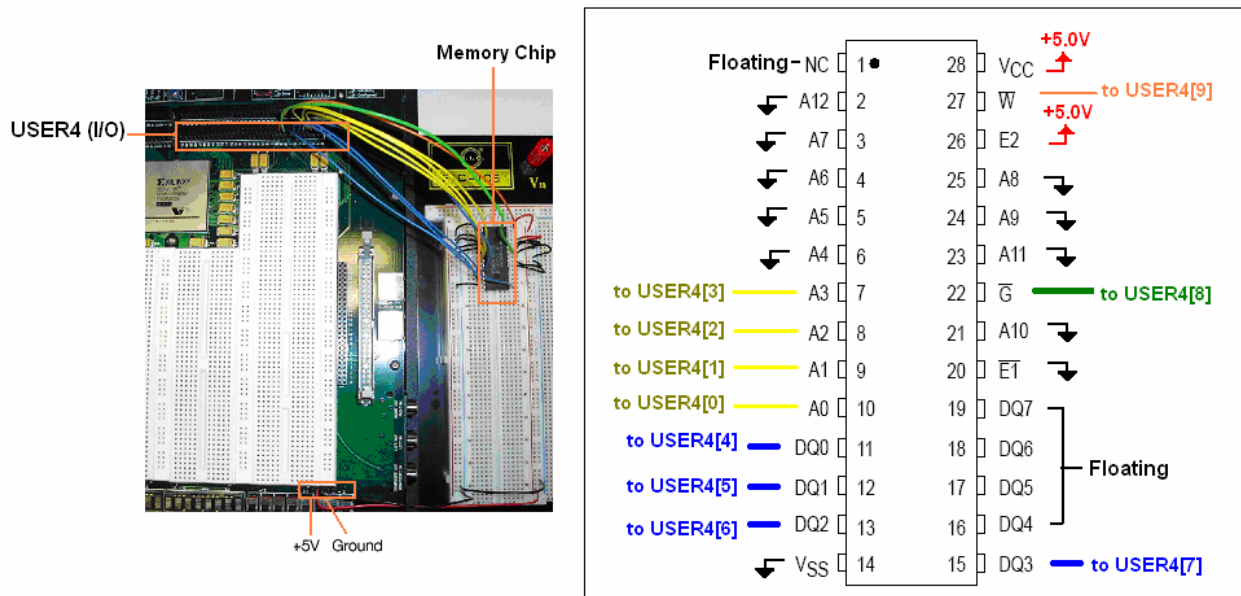

Figure 1: 6264 Placement and Wiring Diagram
- 1) Wire the memory chip onto your breadboard, and connect your breadboard to the +5V, Ground, and USER4[I/O] pins of the labkit by following Figure 1. **To avoid damaging the labkit and pins, place your breadboard beside the labkit, and not on top of it. Also, please only use the labkit's +5V power supply pin, and not an external power supply.**
The chip should be wired onto your breadboard according to the colors shown in Figure 1 (and listed on the next page), and then connected to the corresponding pins of the labkit.
- 1) For consistency and ease of checking, use the colors shown in Figure 1 (also given below)
- 2) Remember to connect the columns of your external breadboard to the 5.0V and GND of the lab kit, as shown in Figure 1.